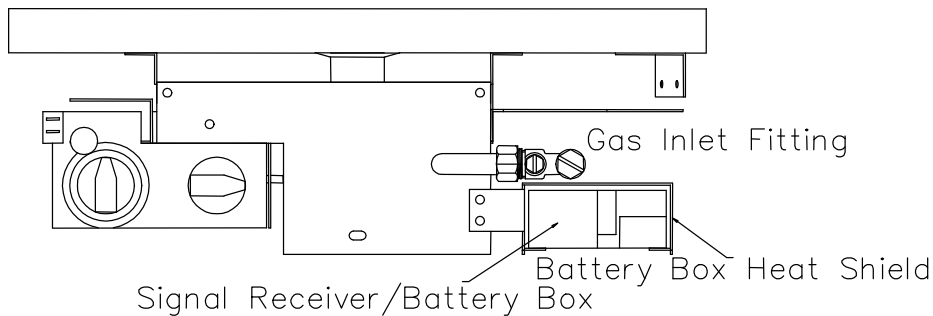

FIGURE 2
- 12 Fit the burner unit into place within the firebox and screw in place with a single screw in the bottom of the control panel. (Eazyflame and Handset Remote Control models; unscrew the battery box heat shield from the fascia to allow room to connect the gas supply. Ensure the gas supply pipe is horizontal where it meets the inlet fitting to make sure there is room to re-fit the battery box heat shield. See Figure 2)
- a) **Remote Control models only.** Remove the gas control battery pack/signal receiver from its heat shield beside the fascia.( See Fig. 2 )
- e) **Eazyflame models only.** Remove the gas control battery pack from its heat shield beside the fascia. ( See Fig. 2 )